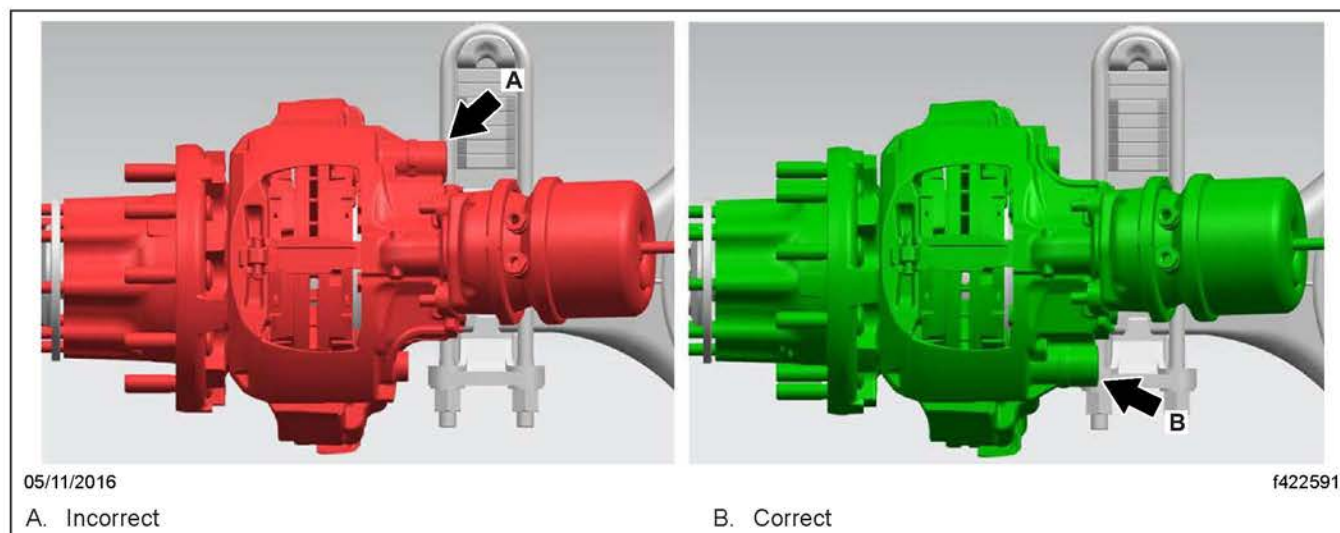

Fig. 1, Inspecting the Caliper Installation
3. Inspect the rear disc brake calipers for proper installation. Correctly installed calipers will have the fixed pin positioned at the bottom of the caliper. See Fig. 1.